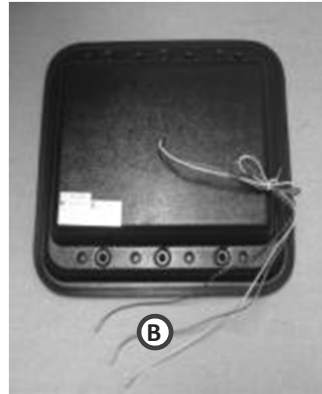

Figure 2
- Step 2** - Remove the LED pedestrian signal module from the shipping box. The LED pedestrian signal module has three colored conductors: white, orange and blue. An affixed wiring label shows the proper connections. The blue conductor shall be connected to the Man symbol, the orange conductor to the Hand symbol, and the white wire to the Neutral (Figure 2).